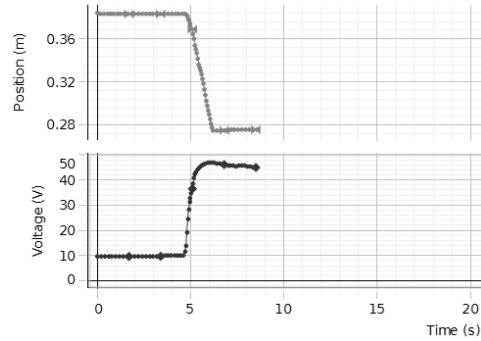

Figure 12: Raw data: voltage and position, each as a function of time.
19. Stop taking data. Raw data should look as in Fig. 12